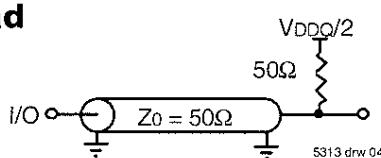

Figure 1. AC Test Load
AC Test Load	See Figure 1
4. These parameters are guaranteed with the AC load (Figure 1) by device characterization. They are not production tested